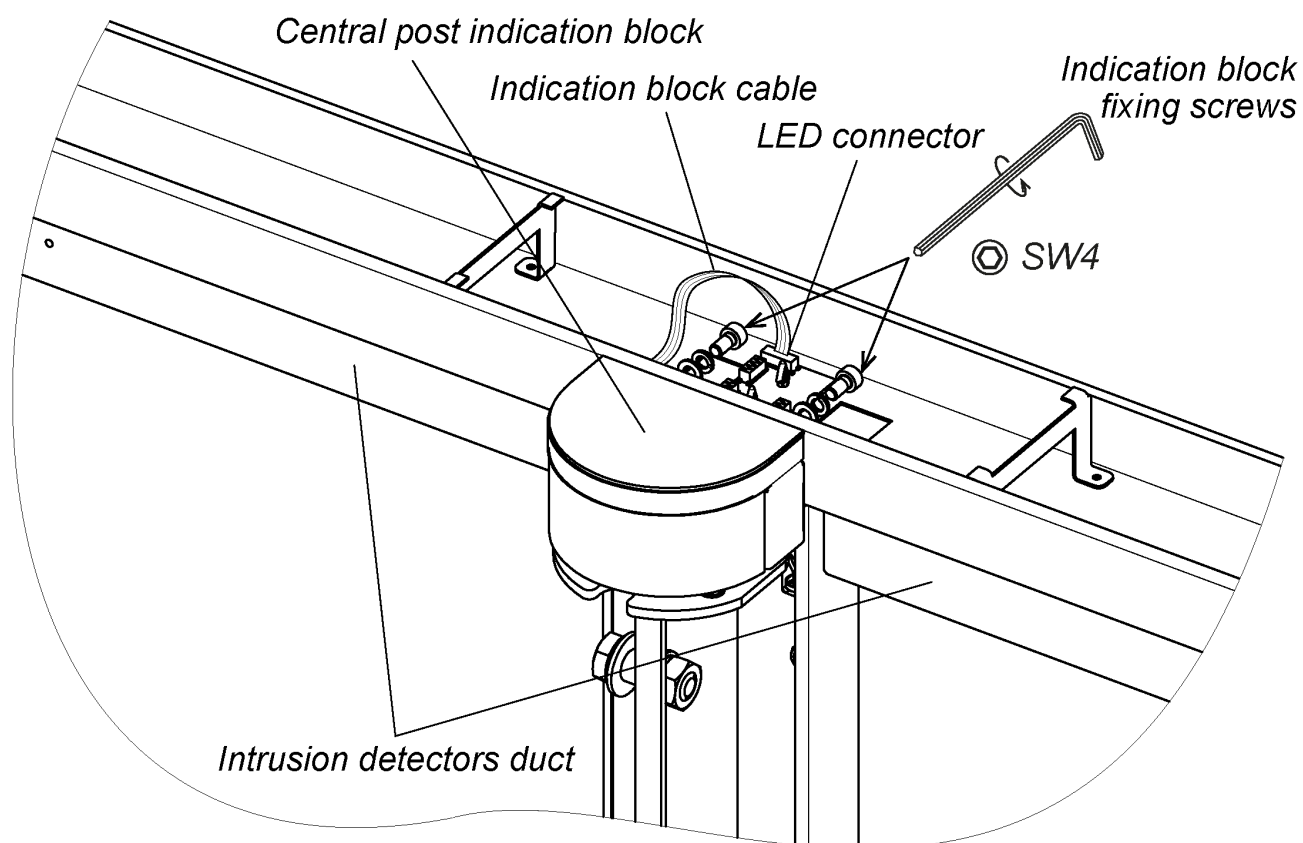
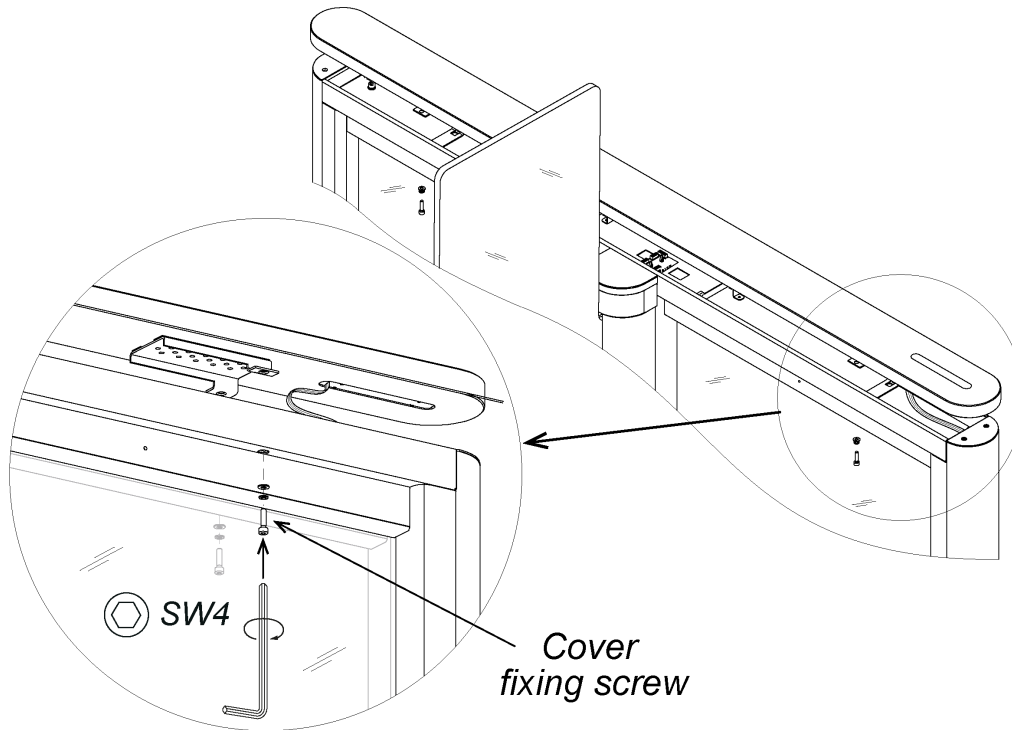

Figure 22. Central post indication block installation
Figure 23. Top cover installation
25. Mount central post indication blocks (5) (see Fig. 22, Sect. 8.8.5) (included in the delivery set).
In order to install the central post indication block (5), proceed as follows (Fig. 22):
3. Install the indication block on the surface located above the rotary support of the swing panel and, using an SW4 Allen key, fix it on the post top duct (7) with two M5×10 screws with flat and spring washers from the delivery set.
Remove the central post indication block in reverse order. Prior to this, take the section top cover (6) off the speed gate section (Sect. 8.8.6, Fig. 23).
Installation procedure for the section top covers (Fig. 23):